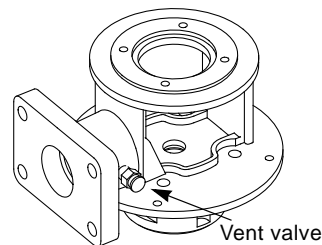

Fig. 15
2. If the pump is fitted with a vent valve, this valve must be opened, see fig. 15.